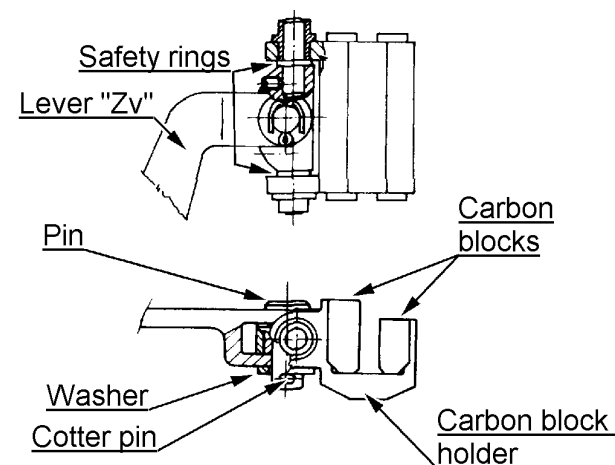

Figure 11-6 Carbon block assembly
(9) Verify the carbon block assembly (figure 11-6) for damage and completeness.
(16) If the propeller is installed, remove carbon block assembly from lever "Zv" (figure 11-6).
- (20) Install the carbon block assembly (figure 11-6) onto the lever "Zv" and the beta-ring. Install the washer onto the pin and safety with cotter pin 1,6x10.
- (21) If hydraulic valve LUN7880 and auxiliary pump LUN7840 are installed, follow this procedure: